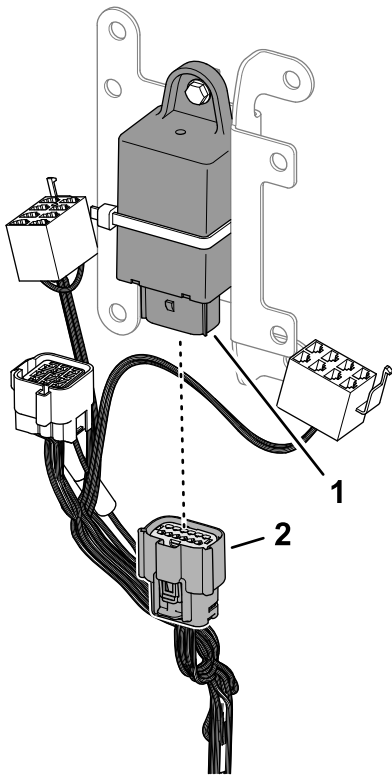

Figure 24
4. Plug the 12-socket connector of the console harness into the 12-pin connector of the flasher (Figure 24).